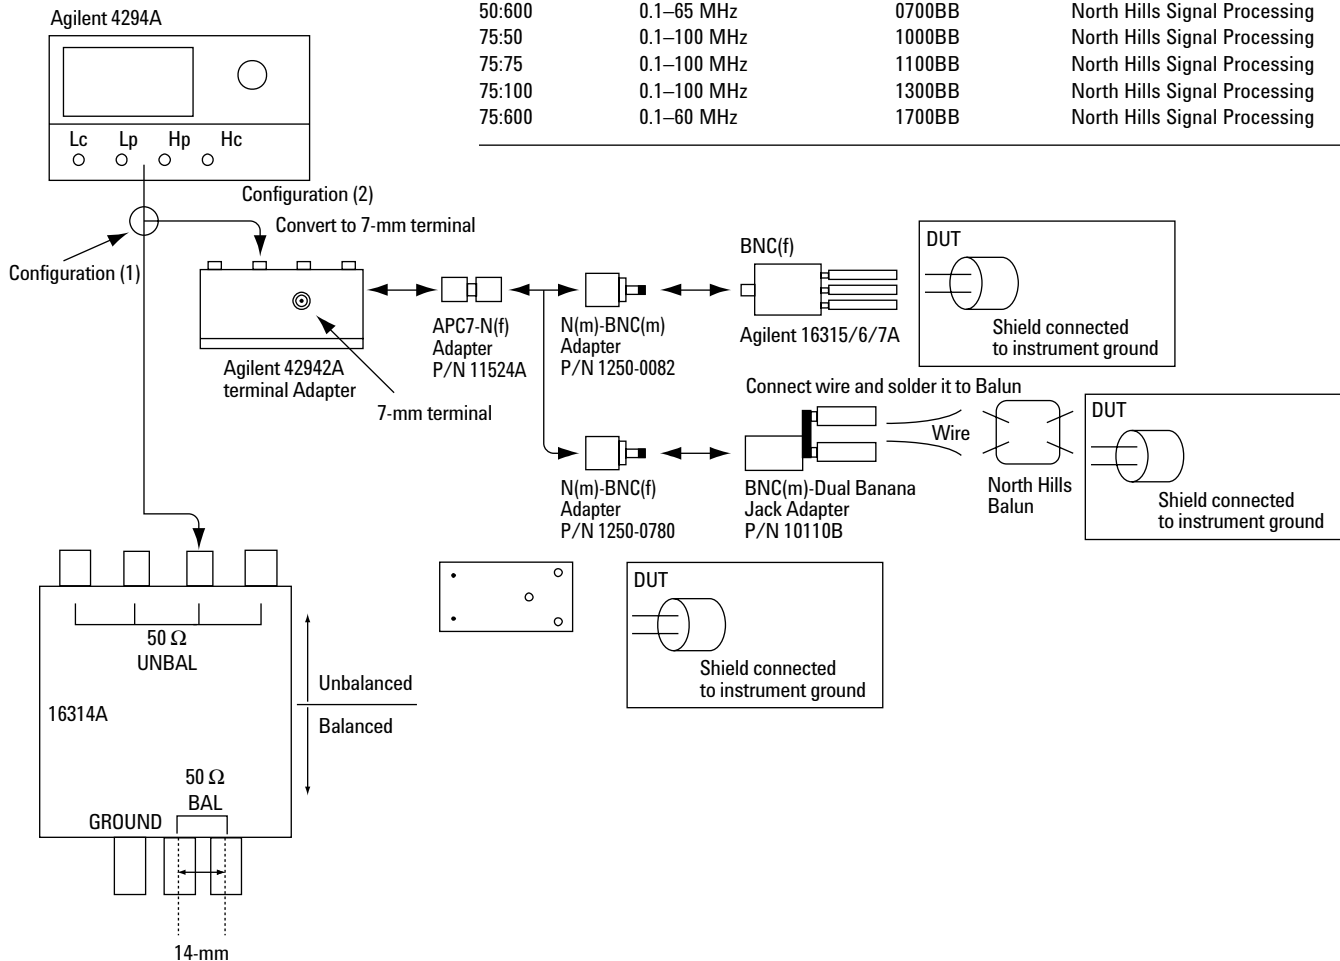

Figure 4. Measurement Configurations with 4294A
Figure 4 shows impedance measurement configuration (1)/(2) with the 4294A.